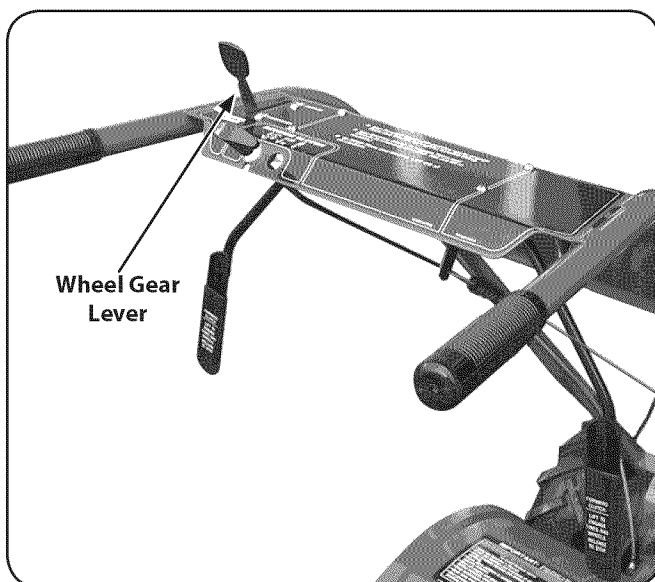

Figure 3-9
- Insert the Wheel Gear Lever up through the slot in the control panel that is labeled "WHEEL GEAR." See Figure 3-9.